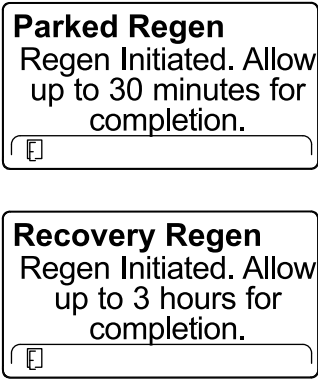

Figure 65
6. The InfoCenter displays the time to complete message (Figure 65).